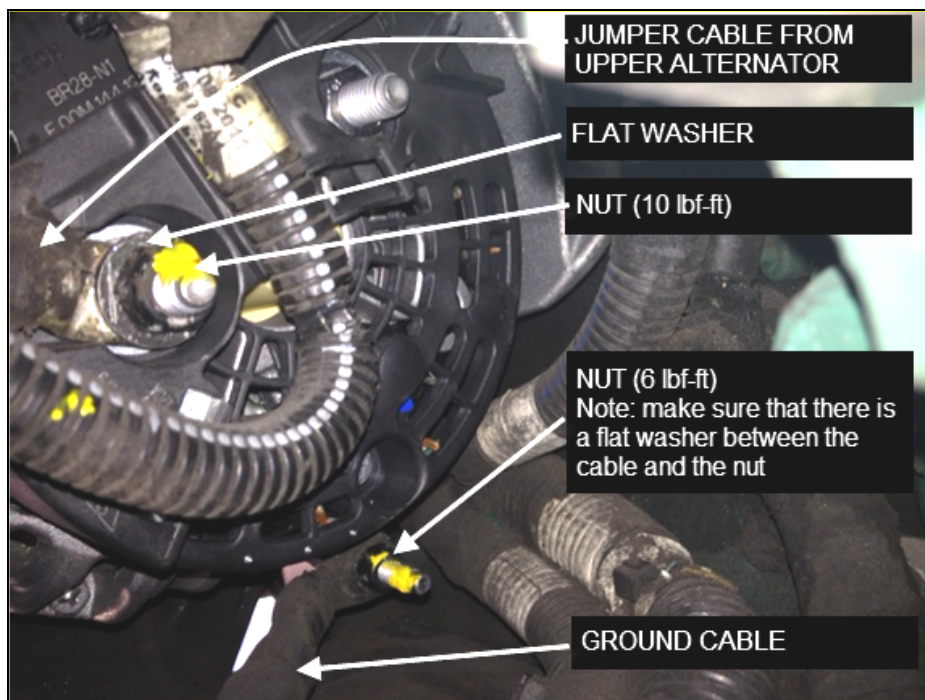

FIGURE 29
- a) Fit jumper cable (positive cable) onto **B1+** stud terminal on lower alternator (FIGURE 29).
- b) Place one new flat washer #5001341 against the cable ring terminal and screw new nut #5001787 (nut torque: 10 lbf-ft) (FIGURE 29).
- c) Fit the ground cable onto the alternator ground stud, place one new flat washer #502573 against the ground cable ring terminal and screw a new nut #5001182 (nut torque: 6 lbf-ft) (FIGURE 29).